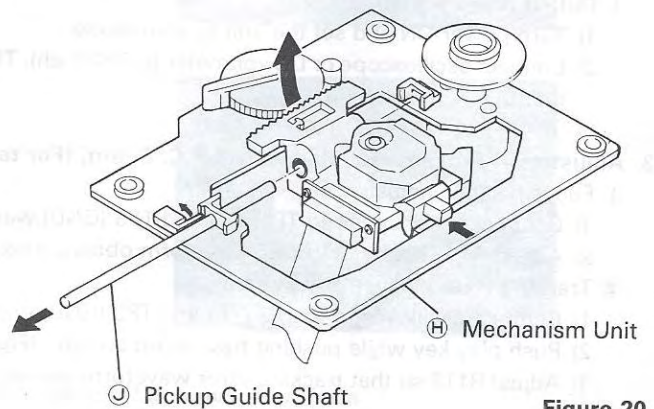

Figure 20
6. Remove pickup guide shaft ⑫ from mechanism unit ⑨, and pickup will be removed. (Figure 20)